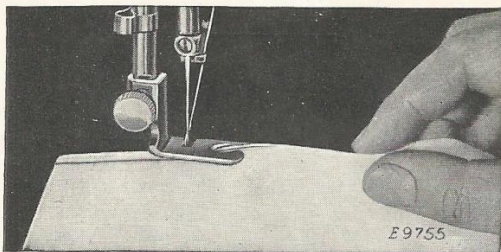

FIG. 29. STARTING A HEM AT THE EDGE
3. Draw the material toward you through the Hemmer, as shown in Fig. 29, at the same time making the second fold at the very edge. Continue to draw the material through the Hemmer until the edge is just under the needle. Place the upper and lower threads together under the Hemmer foot, and assist in starting of the hem by slightly pulling the threads from the back as the machine is run.